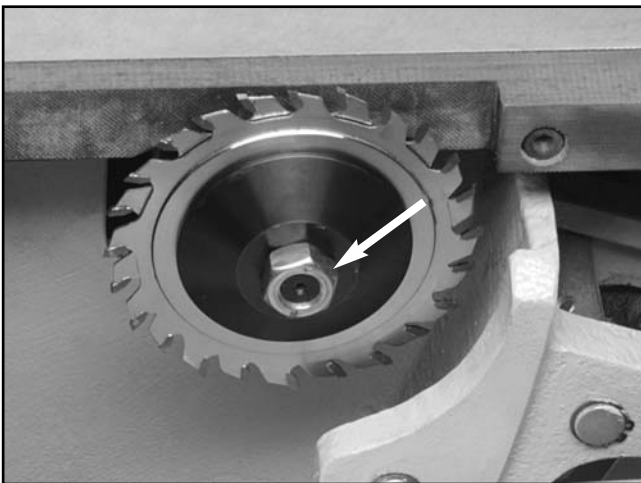

Figure 88. Scoring blade arbor nut.
4. Pull the blade guard away from the blades to expose the arbor nut as shown in **Figure 88**. (The internal blade guard is held in place with a magnet.)